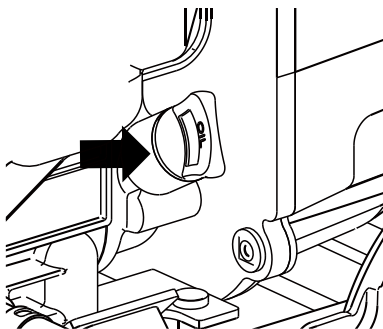

Figure 2: Oil Fill/Drain Plug
2. Clean the area around the oil fill/drain plug and remove plug (See Figure 2).